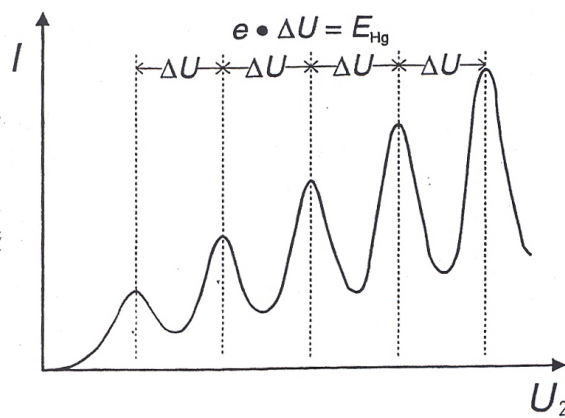

Figure 2: Anode current vs accelerating voltage
collision just before  $G_2$ , resulting in another decrease of anode current as  $U_2$  is raised. This process can be repeated a number of times, resulting in a curve of  $I$  vs  $U_2$  shown in Fig 2. The difference in voltage between the peaks is the excitation voltage 4.9 eV.
2. Using switch (6), turn on the Franck-Hertz power supply unit. LED (3.4) for Hg should be briefly green and then turn to yellow. Set  $U_3$  at 1.5 V.
5. Turn the mode switch (3.1) to the fast saw-tooth position and adjust the scope and the potentials  $U_1$  and  $U_3$  for a reasonable scope trace. You might try values for  $U_1$  and  $U_3$  between 1 and 2 volts. You want a trace that looks somewhat like Fig. 2, although on the scope you will not see such pronounced dips. If you make  $I$  too large by making  $U_1$  too large or  $U_3$  too small, you will saturate the amplifier. The peaks on the right will have flat tops. You can make  $I$  too small by making  $U_1$  too small or  $U_3$  too large. If  $U_3$  is made too large, the dips in the curve will “bottom out.” As a general procedure, set  $U_1$  and vary  $U_3$  for the best curve. Then try another value of  $U_1$ , vary  $U_3$ , and see if the results improve.